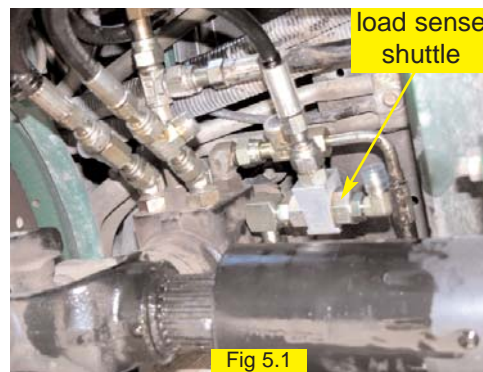

Fig 5.1
Locate the load sense port on the side of the steering orbital as seen in step 4. Remove the hose and install the load sense shuttle to the orbital. The end of the load sense shuttle with the female swivel elbow (N) will attach directly to the orbital while the machine load sense hose will be reinstalled to the center position (O) of the load sense shuttle. (Figure 5.1 and 5.4)